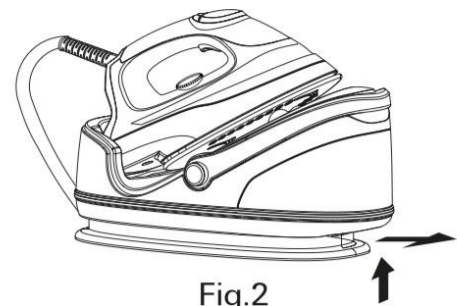

Fig.2
1. Press the water tank lock upwards and slide the detachable water tank outwards from the base. (Fig.2)